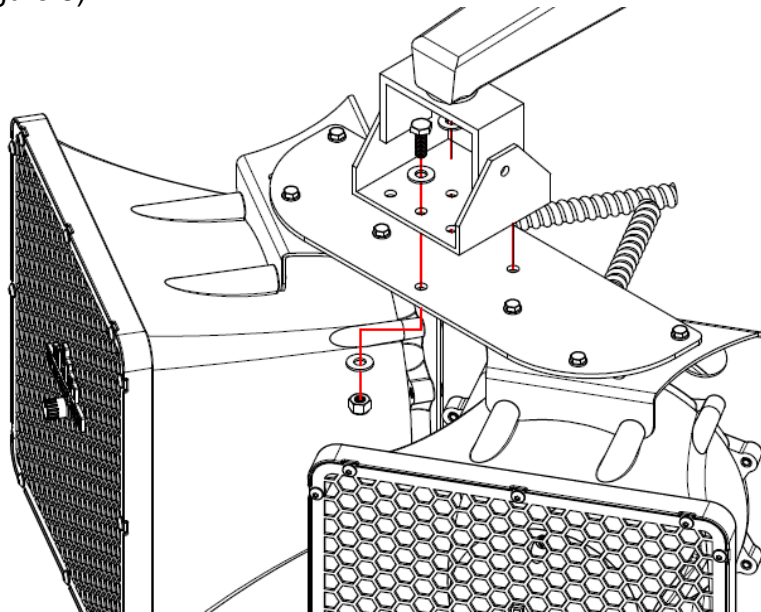

Figure 5: Attaching Dual Speaker System to a Wall Mounting Bracket
- 2) Attach the wall mount bracket to the middle holes of the dual mount plate with three ¼ screws/bolts (Figure 5).